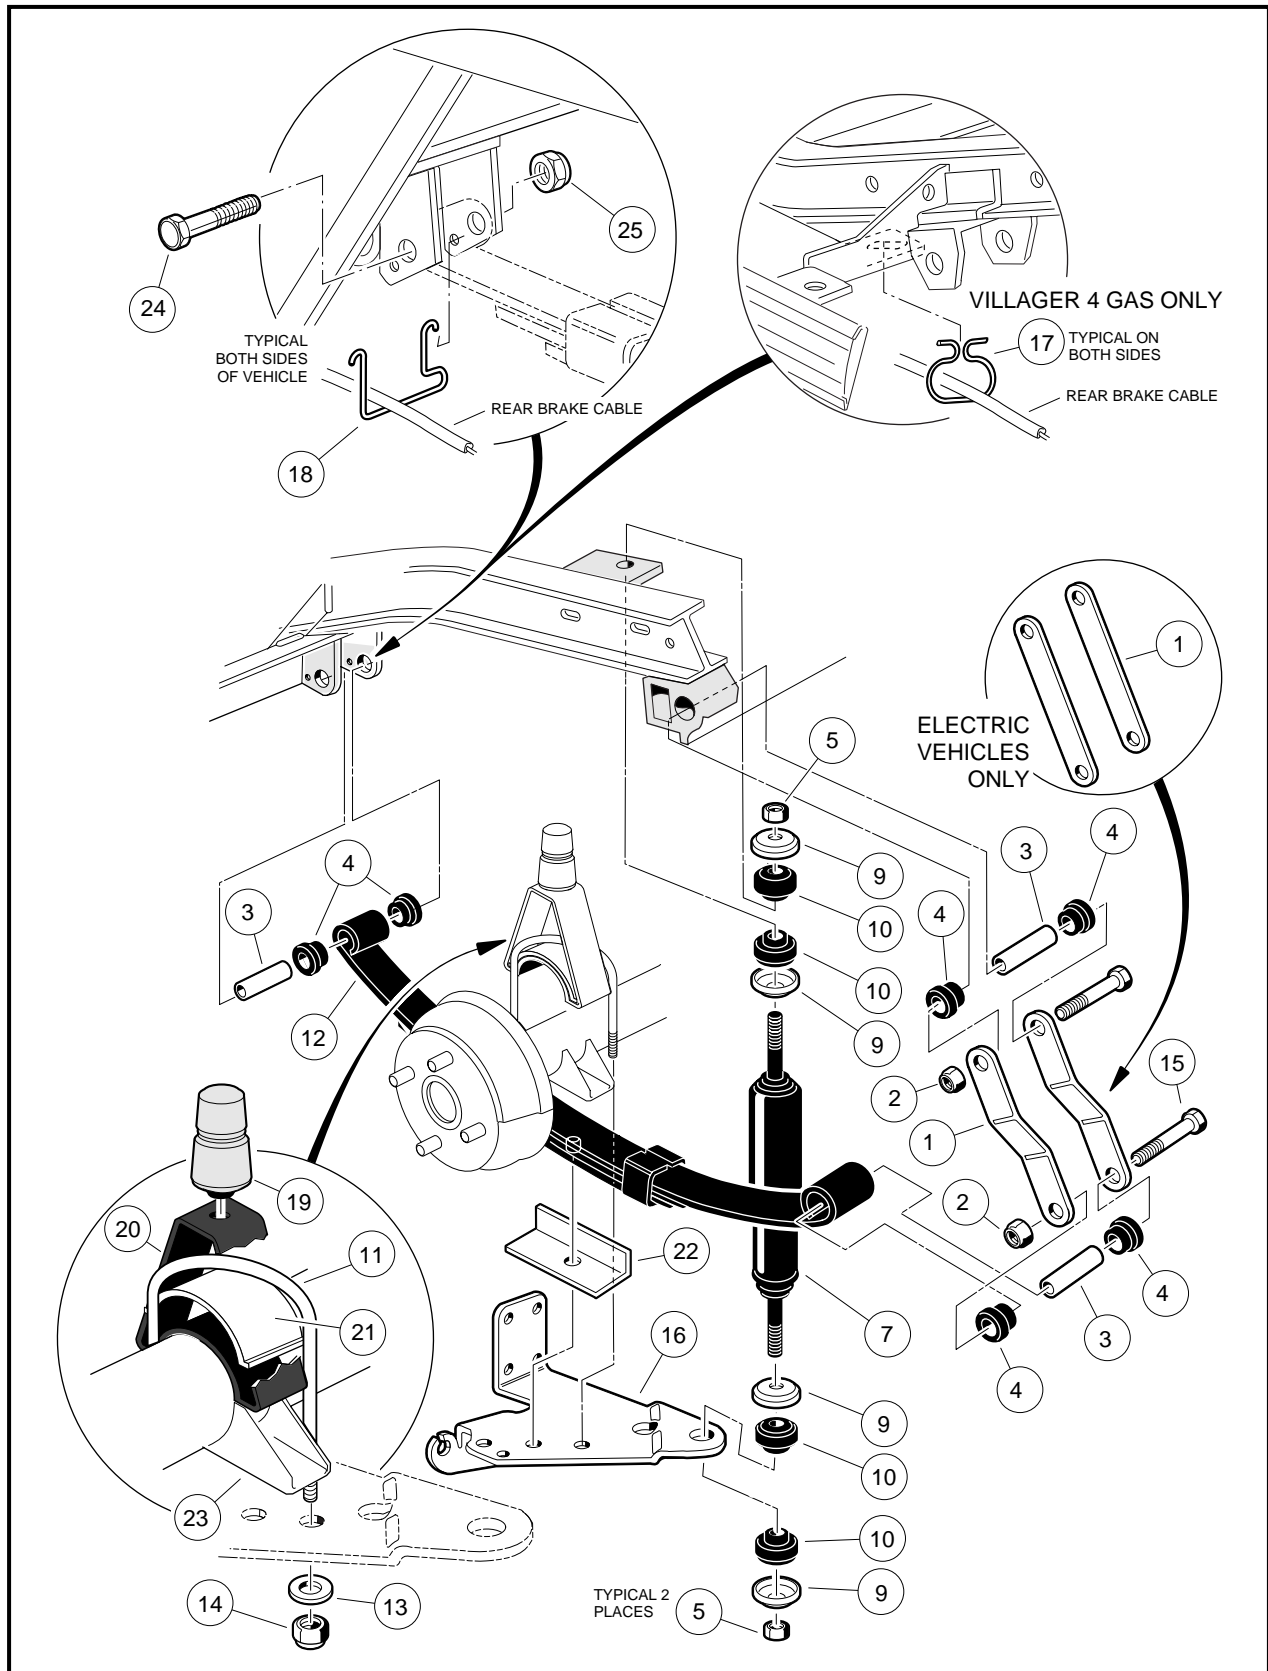
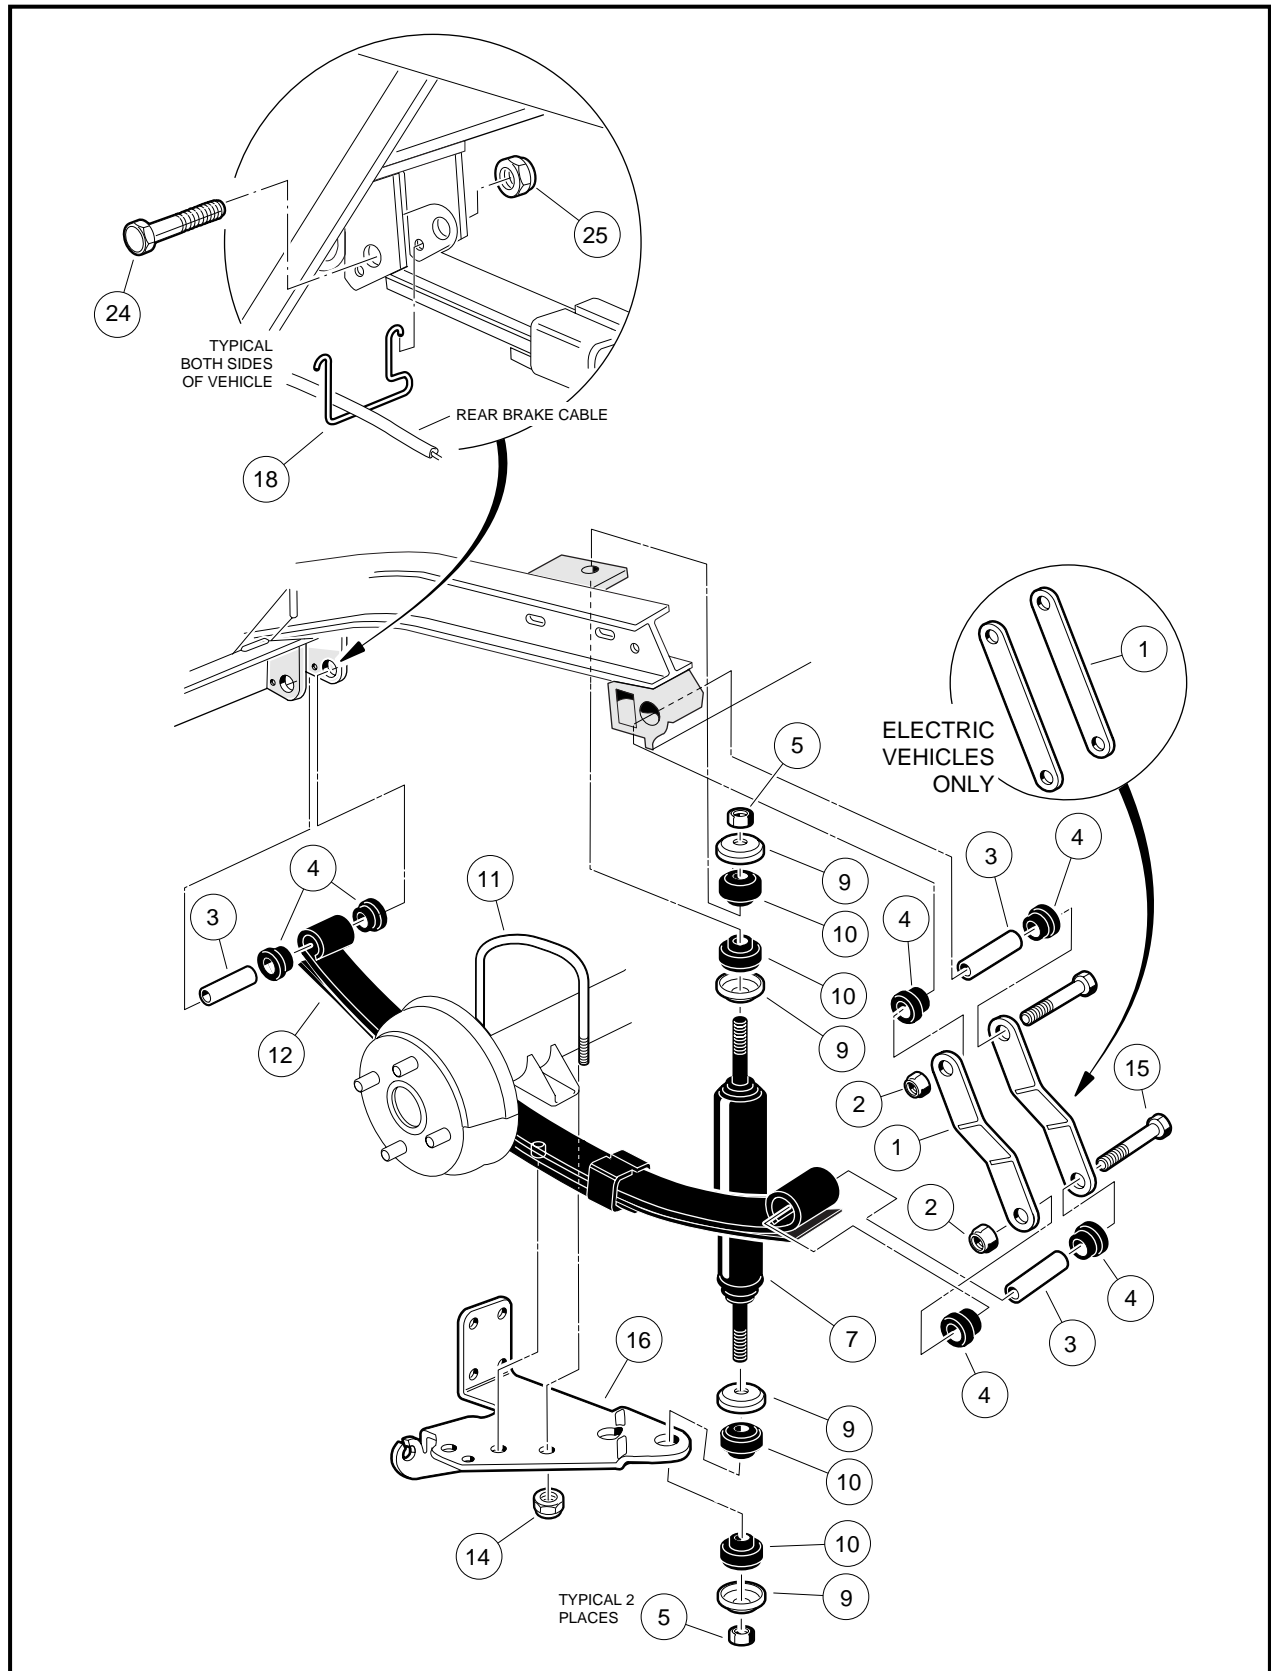

Figure 9-3 Rear Suspension – Vehicles with Jounce Bumpers
Figure 9-4 Rear Suspension – Vehicles without Jounce Bumpers
1. Check shock absorbers (7) for fluid leakage around the lower housing of the shock absorber body. Replace leaking shock absorbers (**Figure 9-4, Page 9-5**).
2. To remove a shock absorber (7), remove the nut (5), cup washer and rubber bushing (9 and 10) from the upper shock absorber stem (**Figure 9-4, Page 9-5**).
3. Remove lower mounting hardware (5, 9 and 10) on shock absorber lower mount (**Figure 9-4, Page 9-5**).
4. Compress the shock absorber to remove it (**Figure 9-4, Page 9-5**).
- THERE ARE TWO DIFFERENT TYPES OF SUSPENSION SYSTEMS COMMON TO CLUB CAR TRANSPORTATION VEHICLES. THE RECOMMENDED METHOD OF DETERMINING THE SUSPENSION TYPE IS TO LOOK FOR THE PRESENCE OF JOUNCE BUMPERS (20) (**FIGURE 9-3, PAGE 9-4**). VEHICLES WITHOUT JOUNCE BUMPERS UTILIZE A PAIR OF NEWLY DESIGNED LEAF SPRINGS.
5. Remove lower nut (5), cup washer (9) and rubber bushing (10) from shock absorber (7) (**Figure 9-3, Page 9-4 or Figure 9-4, Page 9-5**).
- 6.1. Remove the locknuts (14) and flat washers (13) (if present) attaching the U-bolt (11) to the shock mount bracket (16). Remove jounce bumper mount (20) and spacer (21) (**Figure 9-3, Page 9-4**).
- 6.2. Allow shock mount bracket (16) to rotate downward and remove spring retainer (22). Do not disconnect brake cable from bracket (**Figure 9-3, Page 9-4**). **See following NOTE.**
- 7.1. Remove the locknuts (14) attaching the U-bolt (11) to the shock mount bracket (16). Do not disconnect brake cable from bracket (**Figure 9-4, Page 9-5**).
8. Raise axle with floor jack until axle saddle (23) is 1 inch (2.5 cm) above spring (**Figure 9-3, Page 9-4**).
9. Remove bolt (15) and locknut (2) attaching the leaf spring (12) to the rear shackle (1) (**Figure 9-3, Page 9-4 or Figure 9-4, Page 9-5**).
10. Allow rear of leaf spring (12) to rest on the ground and remove the bolt (24) and locknut (25) attaching the front of the spring to the vehicle frame (**Figure 9-3, Page 9-4 or Figure 9-4, Page 9-5**). Remove spring from vehicle.
11. Inspect the rubber bushings (4) and steel sleeves (3) in the spring eyes and replace them if they are worn or damaged (**Figure 9-3, Page 9-4 or Figure 9-4, Page 9-5**).
1. Install rubber bushings (4) and steel sleeves (3) into leaf spring eyes if bushings were removed (**Figure 9-3, Page 9-4 or Figure 9-4, Page 9-5**).
2. Place front of leaf spring (12) into vehicle frame and insert bolt (24) through frame and leaf spring eye. Install locknut (25) and tighten to 15 ft-lb (20.3 N·m) (**Figure 9-3, Page 9-4 or Figure 9-4, Page 9-5**).
3. Align the other end of leaf spring with the holes in the spring shackles (1). Insert bolt (15) through leaf spring eye and shackles. Install locknut (2) and tighten to 15 ft-lb (20.3 N·m). Lower transaxle onto leaf spring (12) (**Figure 9-3, Page 9-4 or Figure 9-4, Page 9-5**).
- WHEN PLACING TRANSAXLE ON SPRING, BE SURE TO POSITION LOCATING BOLT ON THE SPRING IN THE LOCATING HOLE IN THE TRANSAXLE SADDLE (23) (**FIGURE 9-3, PAGE 9-4**).
- 4.1. Install spring retainer (22) and shock mount bracket (16) onto locating bolt at bottom center of leaf-spring (**Figure 9-3, Page 9-4**). **See preceding NOTE.**
- 4.2. Position jounce bumper mount (20) with spacer (21) onto axle tube. Install U-bolt (11), flatwashers (13) (if present) and locknuts (14). Tighten U-bolt to 25 ft-lb (34 N·m) (**Figure 9-3, Page 9-4**).
- 5.1. Install shock mount bracket (16) onto locating bolt at bottom center of leaf-spring (**Figure 9-4, Page 9-5**). **See preceding NOTE.**
- 5.2. Install U-bolt (11) and locknuts (14). Tighten U-bolt to 25 ft-lb (34 N·m) (**Figure 9-4, Page 9-5**).
1. Grip jounce bumper (19) and pull from bumper mount (20) **(Figure 9-3, Page 9-4)**.
1. Insert jounce bumper (19) into bumper mount (20) **(Figure 9-3, Page 9-4)**. Make sure the entire circumference of bumper is seated firmly in mounting hole.